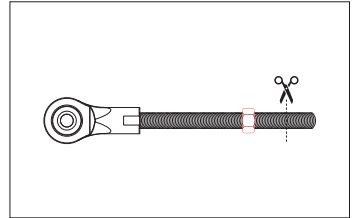

Fig. 12: Marking intersection point
4. If you don't have a thread cutter available to deburr the threaded rod, screw a nut onto the threaded rod before cutting it. Use the nut to deburr the rod end (Fig. 12).